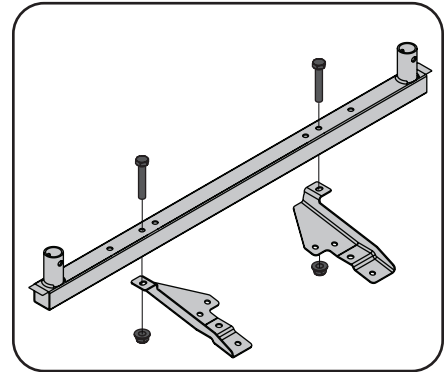

Figure 3-4
3. Assemble Support (683-05347) and Mounting Brackets (789-00433, 789-00434) by using 2 Hex Head Capscrews (710-3180) and 2 nuts (712-04063) as shown in Figure 3-4.